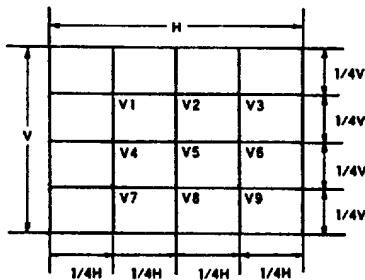

Figure 3 Measuring Points (Full Screen)
2. Calculate the video output at the nine, evenly spaced points shown in Figure 3. Calculate VF using formula (1).